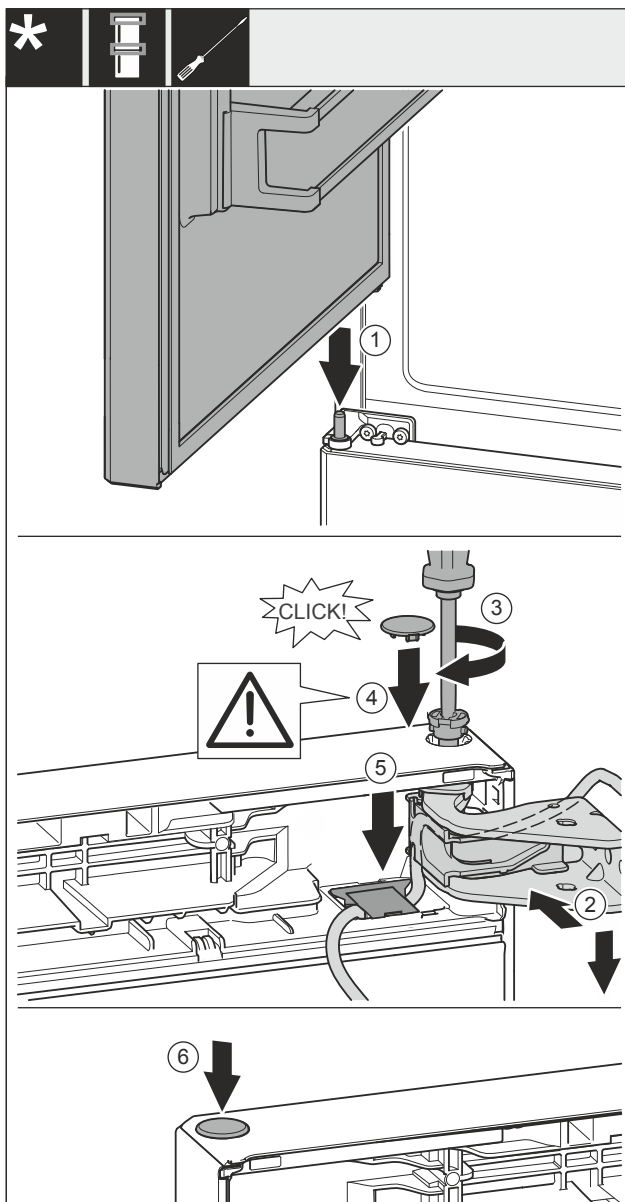

Fig. 38
- Place the top door on the centre bearing bolt Fig. 38 (1).
- Align the top door with the opening in the swap bearing block Fig. 38 (2).
- Insert the bolt Fig. 38 (3) and use screwdriver to tighten it.
- Insert the cover Fig. 38 (4).
- Check that the cover Fig. 38 (4) is resting on the door.
- Insert the cover Fig. 38 (5) and push down until it engages.
- Insert the cover Fig. 38 (6).